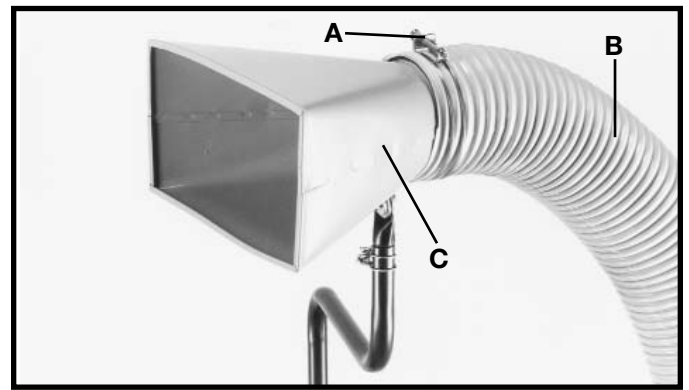
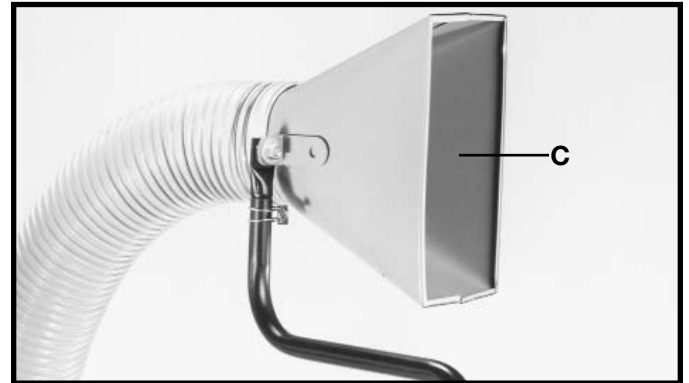

Fig. 17
Fig. 18
3. Place the remaining hose clamp (A) Fig. 17, around the other end of hose (B), slide hose (B) onto intake funnel (C), and tighten hose clamp (A). **NOTE:** If desired, intake funnel (C) can be rotated to the vertical position, as shown in Fig. 18.